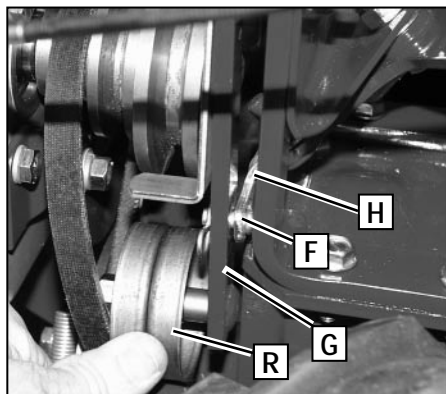

Figure 5-10: Remove clevis pin from outer hole in forward adjustable link and move to inner hole in link.
5. On the **left** side of the unit (as viewed from operator's position) remove the hairpin cotter from the clevis pin (F, Figure 5-10) that connects the forward idler arm (G) to the forward adjustable link (H). Push inward on the forward idler arm (G) and remove the clevis pin (F).
6. There are two holes in the forward adjustable link (H, Figure 5-10). Push inward on the forward idler arm (G) and install the clevis pin (F) through the **inner** hole in the forward adjustable link (H) and out through the single hole in the forward idler arm (G). Secure the clevis pin with the hairpin cotter. **NOTE:** While pushing inward on the forward idler arm, be sure that the forward drive belt is moved off to the right side of the tiller. This creates more room to install the clevis pin when the forward idler arm is pushed inward.